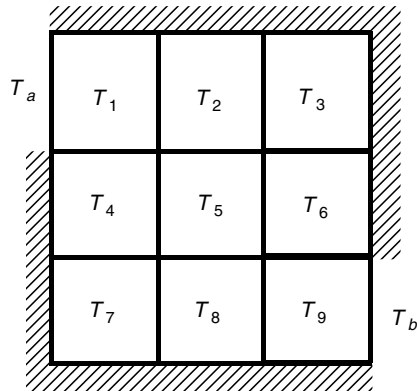

Figure P10
- 10.** Use the averaging principle developed in Problem 9 to find the temperature distribution of the plate shown in Figure P10, using the  $3 \times 3$  grid and the given values  $T_a = 150^\circ\text{C}$  and  $T_b = 20^\circ\text{C}$ .